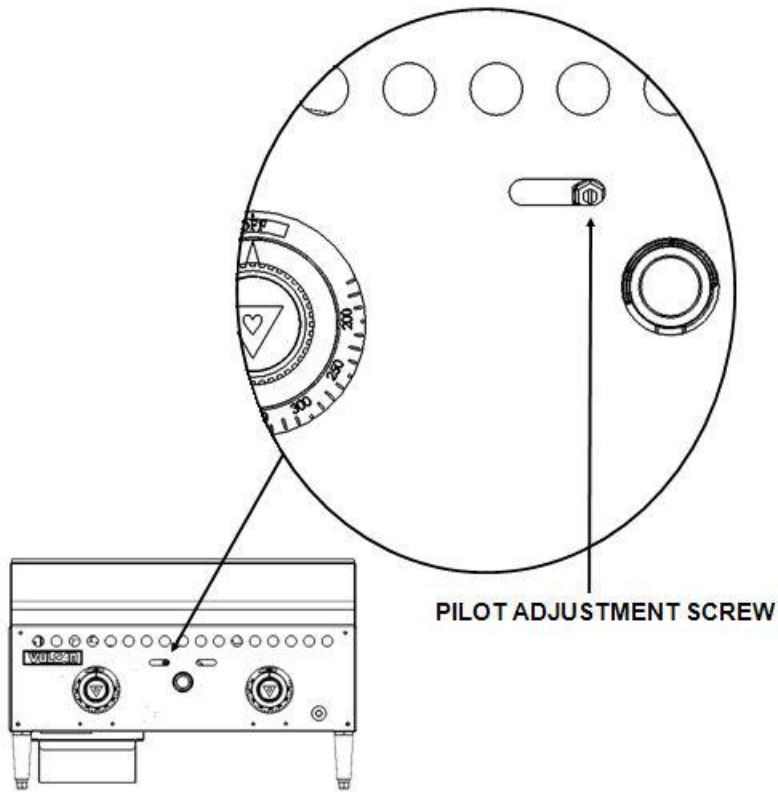

Fig. 6
4. When the gas at the pilot has been burning for about 45 seconds, release the safety valve button. If the pilot does not remain lit, repeat the operation allowing more time before releasing the button. The amount of time necessary to hold the safety valve button will increase at the initial installation of the unit and if the main gas supply has been turned off for a long period of time. It may be necessary to adjust the pilot valve to increase gas to the pilot. See Fig. 6 on page 12.
Using a flathead screwdriver, turn the slotted hex-head pilot adjustment screw clockwise to decrease the flame, and counterclockwise to increase the flame. See Fig. 6.
À l'aide d'un tournevis à tête plate, tournez la vis à tête hexagonale fendue de réglage de la veilleuse d'allumage dans le sens des aiguilles d'une montre pour diminuer la flamme et dans le sens contraire des aiguilles d'une montre pour augmenter la flamme. Voir Fig. 6.